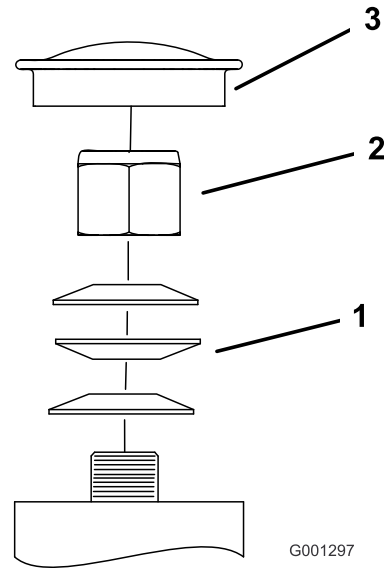

Figure 61
3. Remove the dust cap from the caster (Figure 61).
4. Tighten the locknut until the spring washers are flat and then back off a 1/4 turn to properly set the pre-load on the bearings (Figure 61).
Important: Make sure that the spring washers are installed correctly as shown in Figure 61.
5. Install the dust cap (Figure 61).